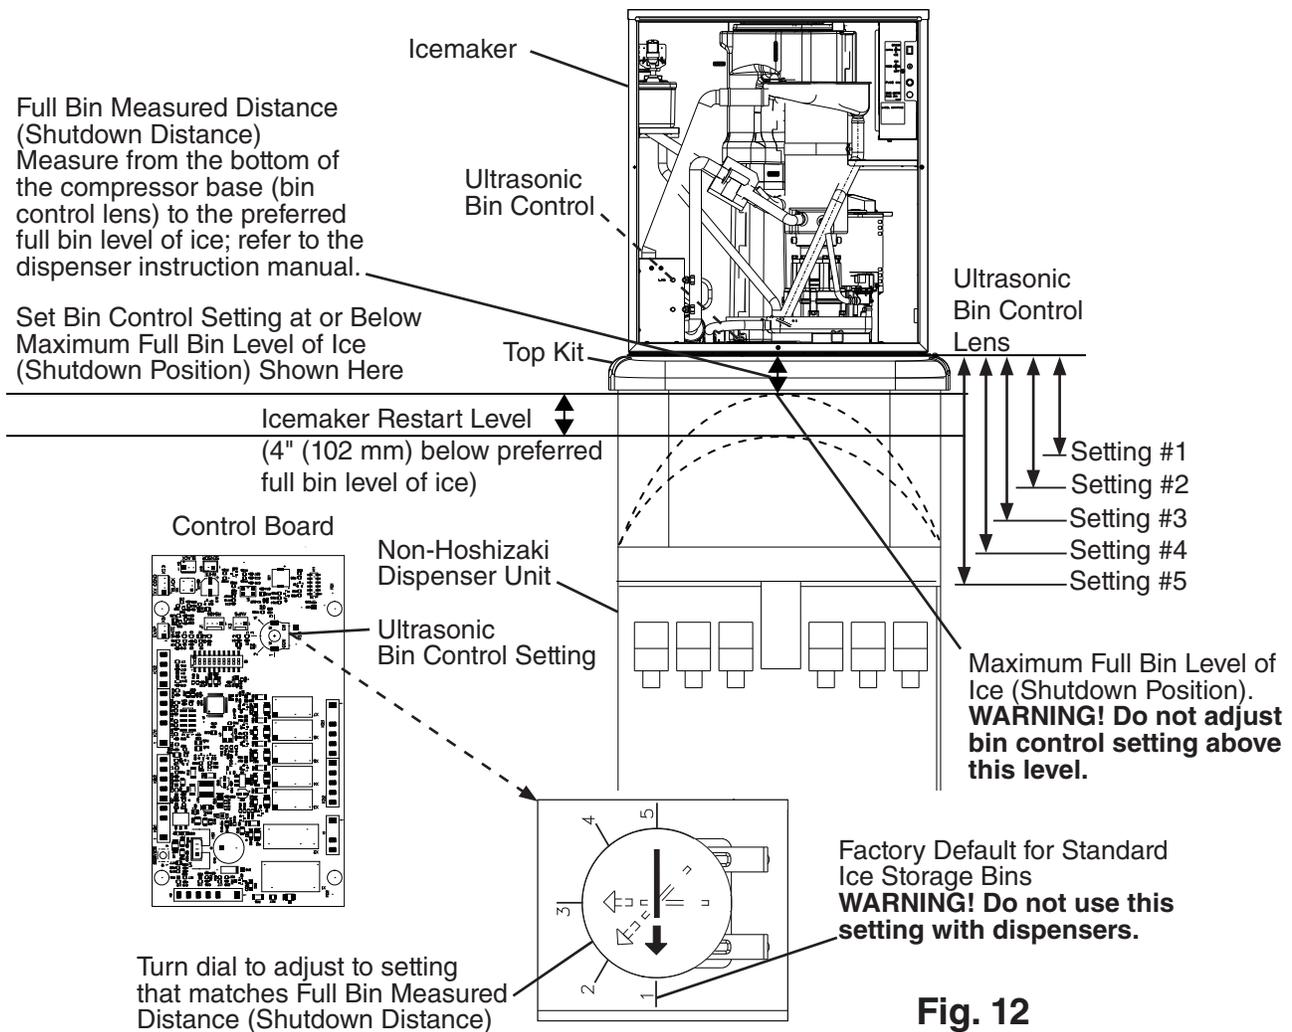

Fig. 12
- 2) Confirm the correct control board bin control setting required for your application and adjust according to the following table. See Fig. 12.